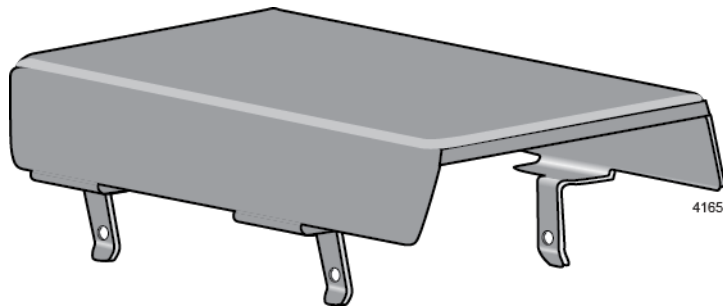

Figure 10. Optional Drip Guard
Allied Telesis offers an optional drip guard for the switch. Refer to Figure 10. The switch with the drip guard has an ingress protection (IP) code of IP31.